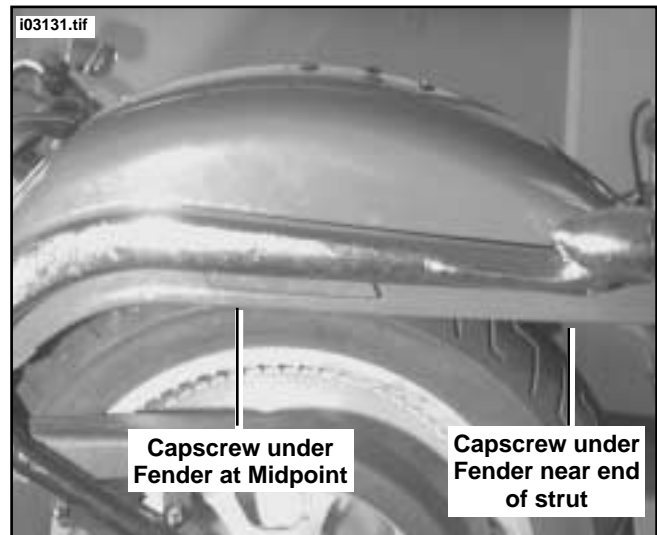

Figure 4. Remove Strut Cover Capscrews under Fender at Midpoint and near end of strut
6. See Figure 4 and 5. Remove left strut capscrew (under fender) near end of strut. While supporting strut, remove capscrew at approximate midpoint of strut.